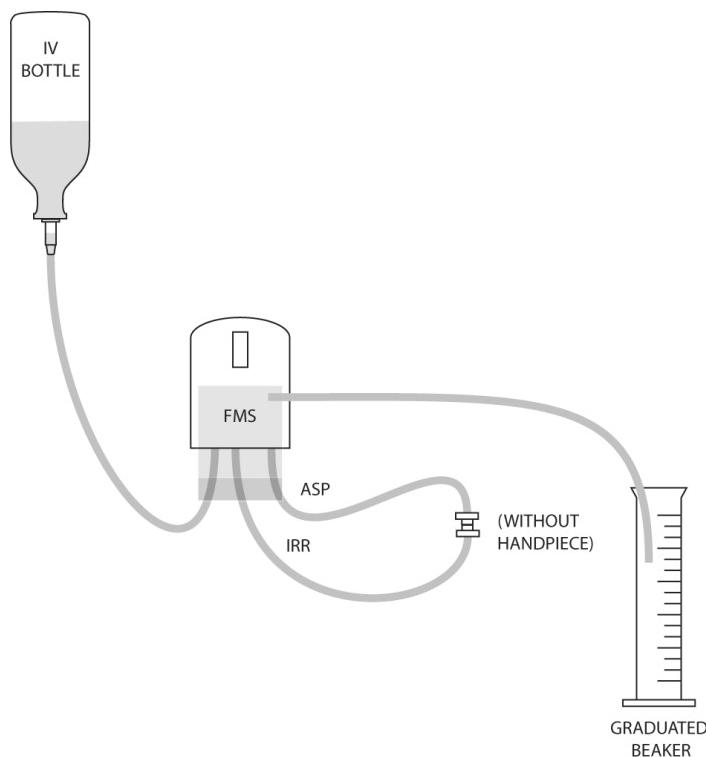

Figure 7: Aspiration Flow Rate Test Setup Using Graduated Beaker
2.2.5.5.4.1 Connect Aspiration and Irrigation lines together (See Figure 7).